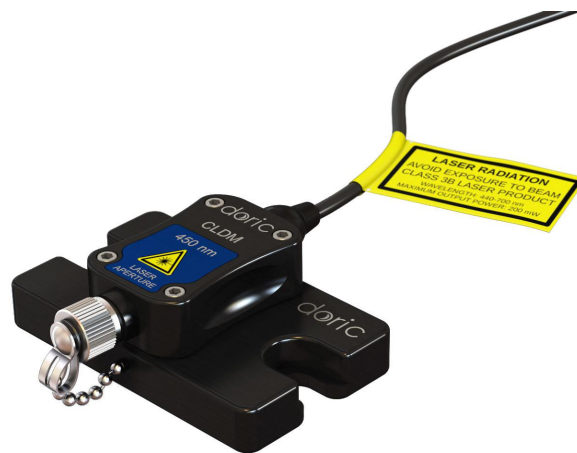

Figure 2.1: Connectorized Laser Diode Module
The *Connectorized Laser Diode (LD) Module* (Fig. 2.1) is a compact single laser diode source connectorized for use with FC/APC-connectorized patch cords. These modules are available in wavelengths from 405 nm to 638 nm.